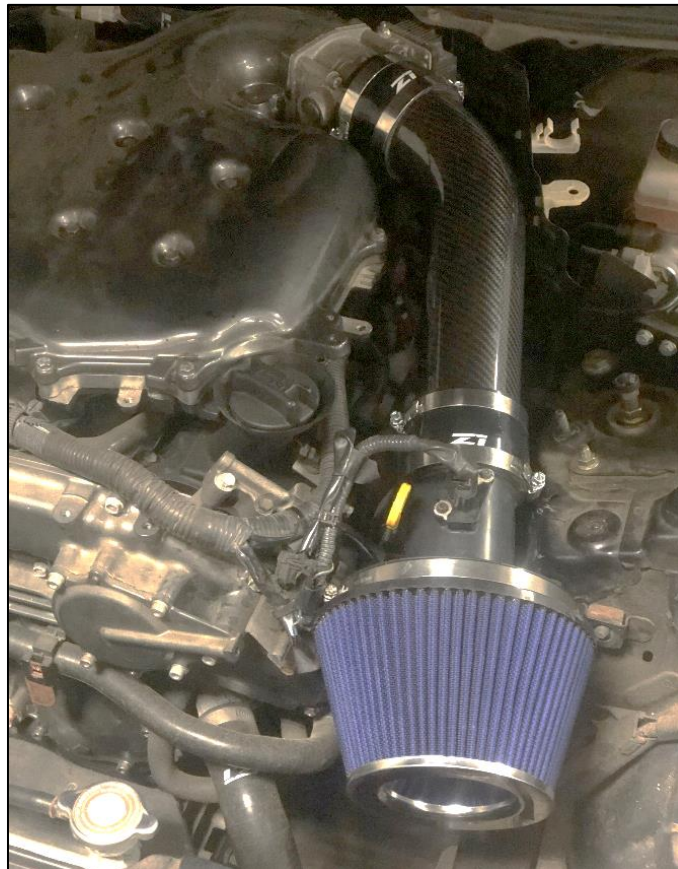

Figure 7
27. Locate the C.A.R.B. Exemption Sticker. The sticker must be readily visible under the hood for an Emissions Inspector to easily see it when the vehicle is required to be tested for emissions. It is **NOT** recommended to affix the label to any equipment that is easily removable from the vehicle. Select a suitable location (underside of the hood, Radiator Shroud, Core Support, etc.). Clean the area to remove all debris and dust and apply the sticker to the vehicle. *Figure 7.*